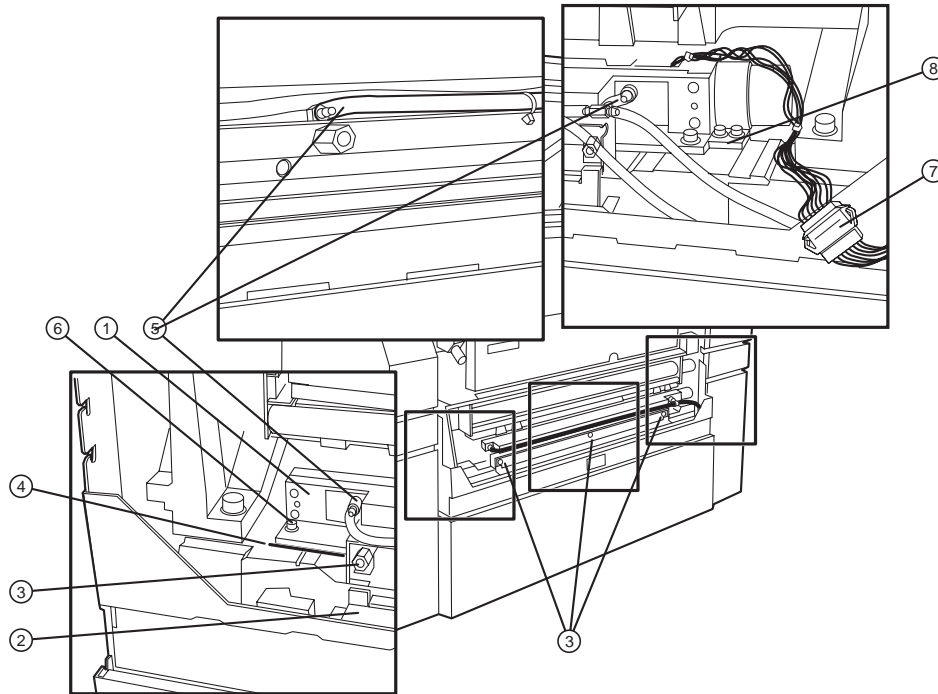

Figure 4-13 Take-up punch assembly.
2. Make scribe marks to the left, right and front corners of the take-up punch assembly. Refer to Figure 4-13.
3. Remove the take-up punch chafe pan. Refer to Figure 4-13.
- ①—Take-up punch assembly. ②—Take-up punch chafe pan.
③—Three chafe pan standoffs. ④—Scribe marks (left and right).
⑤—Three vacuum tubes. ⑥—Two 3/16" hex bolts. ⑦—Sensor motor connector.
⑧—Punch shoe (DO NOT REMOVE).
4. Remove the three (3) standoffs securing the chafe direction shield attached to the front of the punch assembly. Remove the chafe direction shield from the system. Refer to Figure 4-13.
5. Cut the tie wraps on the three (3) vacuum lines and remove the lines from the assembly. Refer to Figure 4-13.
6. Disconnect the sensor motor connector. Refer to Figure 4-13.
CAUTION: Do not loosen or remove the two (2) 3/16" allen screws that secure the punch shoe (located to the right of the punch assembly) to the drum base. Refer to Figure 4-13. This punch shoe, set at the factory, is used for left to right alignment of the punch assembly. To avoid damage to the carriage and drum, do not let the punch tilt into the machine.
7. Remove the two (2) 3/16" hex bolts securing the take-up punch assembly to the outer drum surface. Refer to Figure 4-13.
1. Install the punch assembly to the scribe marks. Refer to Figure 4-13.
2. Move the take-up punch assembly completely to the right until it touches the punch shoe. Tighten the two (2) 3/16" allen screws.